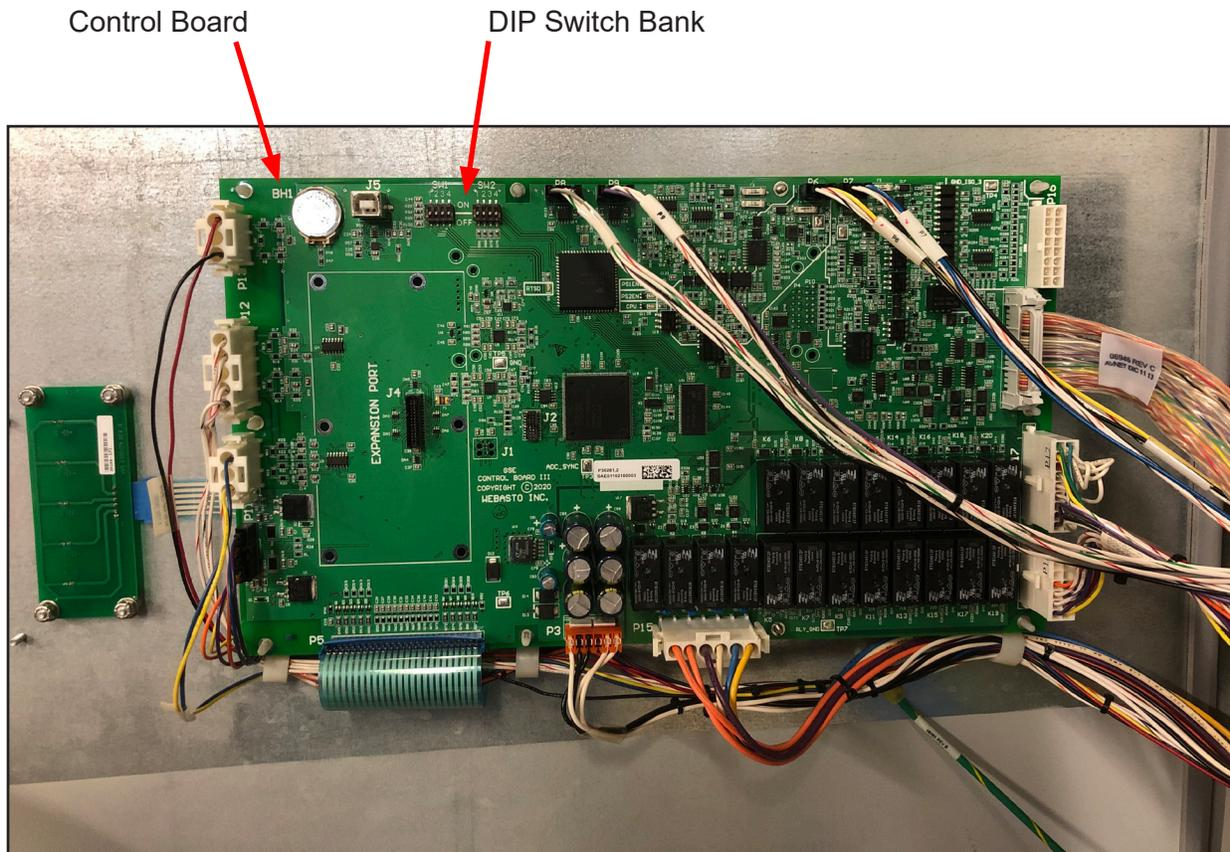

Figure 4 – Power Station Control Board Location
2. Set the maximum port current configuration for each of the power stations. Each power station contains a control board that is mounted on the inside surface of the door (Figure 4).
4. Set the control board SW1-4 DIP switch in the DIP switch bank (Figures 4 and 5) to the ON position to enable the parallel-mode operation.